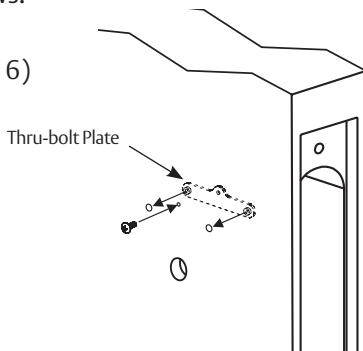

Figure 15
- Turn-piece functions only: install turn-piece thru-bolt plate using truss head screw. (Leave screw slightly loose.) (Figure 15)